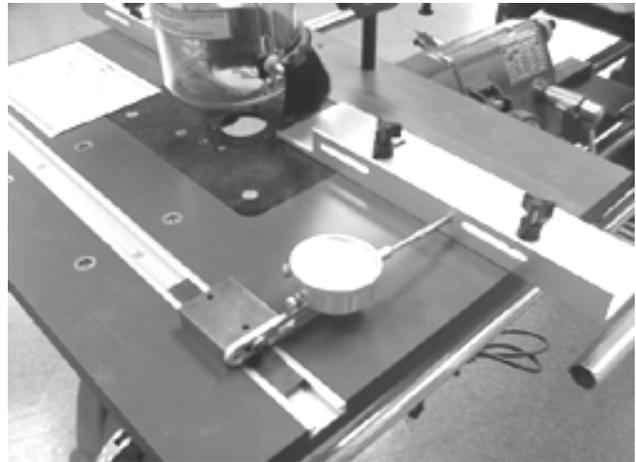

Figure 7
1. Start by installing the Set Up Gauge in the Miter Gauge slot (This procedure also works for Router Table Fences, as shown in Figure 7).